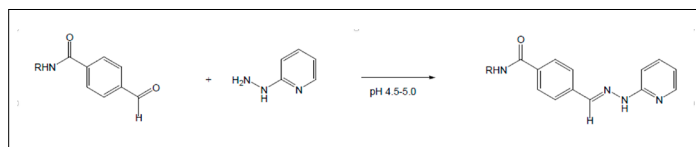

Figure 2: Colorimetric reaction used to quantify the number of 4FB linkers on a biomolecule.
- The molar substitution ratio (MSR) can be determined using a colorimetric reaction outlined in Figure 2. Addition of 2-hydrazinopyridine to a 4FB-modified biomolecule yields a bis-aryl hydrazone that absorbs at 350 nm. Refer to the 4FB-Protein MSR Calculator or the 4FB-Oligonucleotide MSR Calculator as well as the protocol that is appropriate for your lab equipment: 4FB Protein MSR Instructions or 4FB Oligo MSR Instructions.